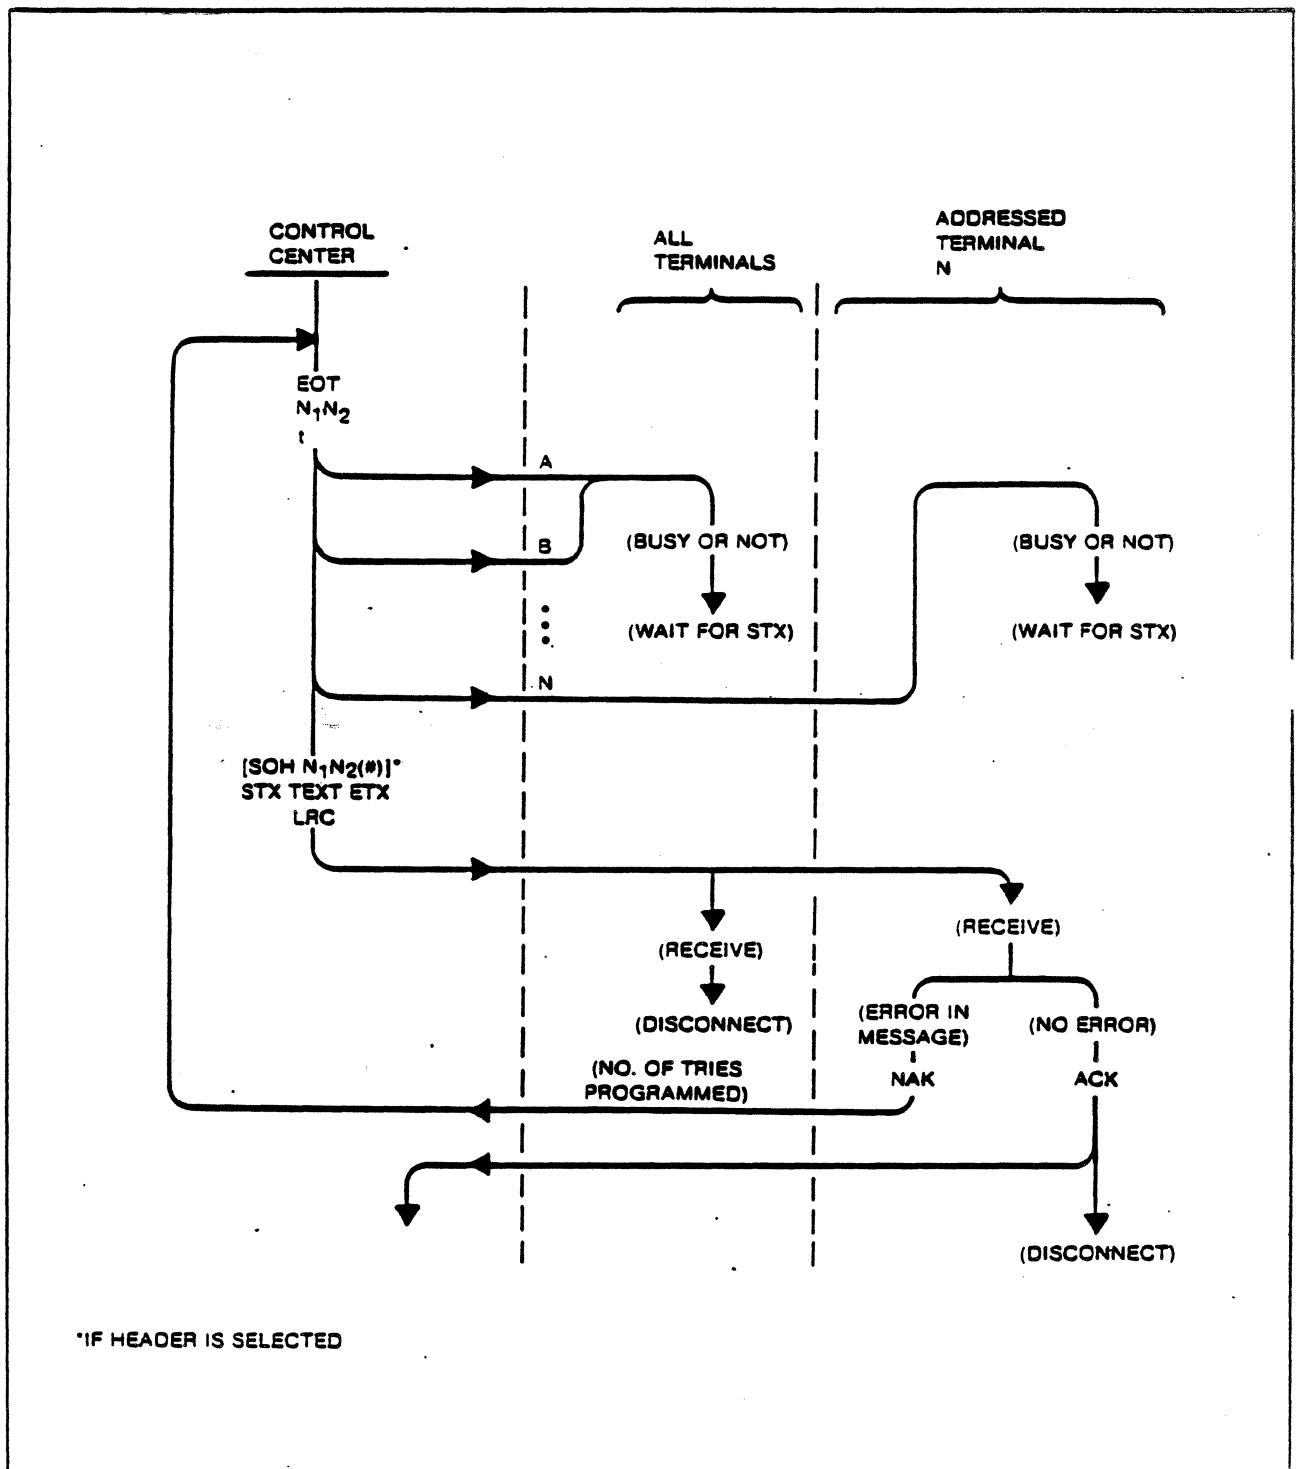

Figure 5-5. BROADCAST SELECT Function Dialogue, Flow Diagram
5.1.9 BROADCAST SELECT Responses (See Figure 5-5)